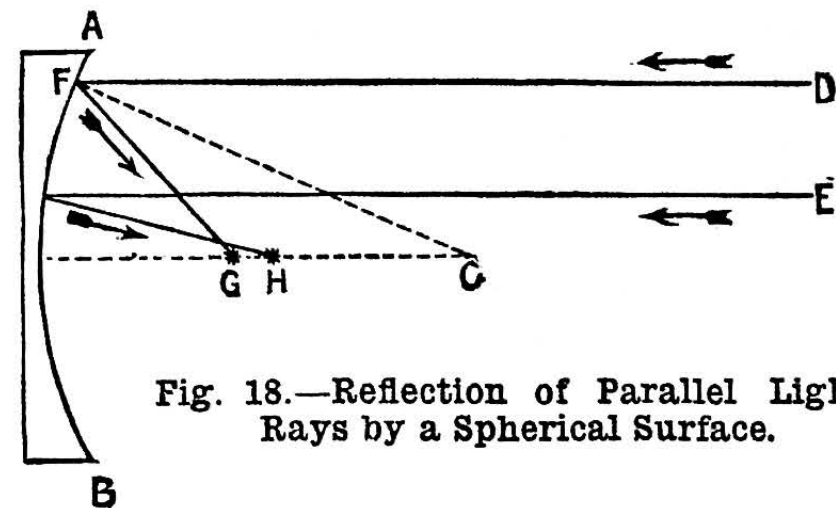
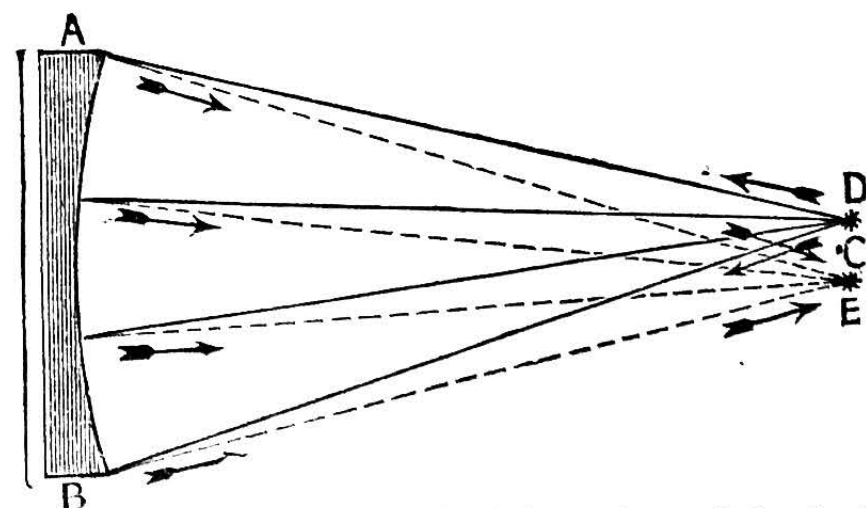
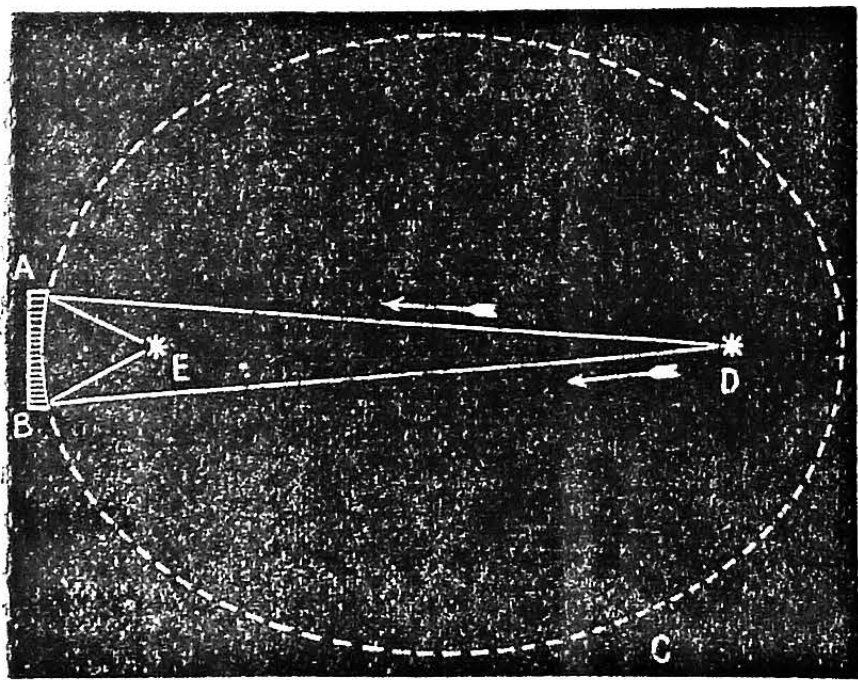

Fig. 18.—Reflection of Parallel Light Rays by a Spherical Surface.
Fig. 19.—Reflection of Light Rays by a Spherical Mirror when the Source of Light is close by the Centre of Curvature.
Fig. 20.—Rays proceeding from one Focus of an Ellipse reflected to the other Focus.
A truly polished speculum receives these parallel light rays and reflects them so as to form a quite perfect image of the object (see Fig. 18). This image is called the focal image, and is examined by being magnified by the eyepiece. (See Fig. 2, page 50.)
By means of Fig. 18 it may be traced how parallel light rays, falling directly on to a spherical mirror, are reflected.†
The spheric mirror will, however, under a certain condition, reflect light rays, not parallel to each other, to one point. Thus diverging light rays from a luminous object at *C* (Fig. 18) would be accurately reflected back to *C*, and (in Fig. 19) the rays from *D*, a luminous object quite close to the centre of curvature, *C*, are reflected unerringly (in effect) to the point *E*, where a perfect image is formed.
But if *D*, the source of light, be moved distant from the mirror, *AB*, spherical aberration will at once set in. Let *D* be removed to a considerable distance, as in Fig. 20; then, in order that the rays from *D* may be properly reflected, the curve *AB*, formerly spherical, will need to be made elliptical—part of the ellipse, *ABC*—and this will be done by deepening the concavity.
* The same law (the angle of incidence is equal to the angle of reflection) applies to rays falling on a flat surface, but the angle of incidence is then found by erecting a perpendicular at the point where the incident ray cuts the reflecting surface. Indeed, in Fig. 18, joining the centre of curvature, *C*, and the point of contact, *F*, is equivalent to erecting at *F* a perpendicular to a tangent to the curve *AB*.
The mirror is first polished spherical, so as to accurately reflect some object at the centre of curvature (Fig. 19). The object is then removed to a short distance (Fig. 20), and the curve of the glass deepened (or flattened) until the reflected image is again perfect. The object is then still farther removed, and the curve again modified to meet the altered circumstances. Thus an approximation to the parabolic curve is obtained, and a little careful work in the same direction perfects the mirror for celestial objects.
To summarise: A spherical mirror can be parabolised either by flattening the curve from centre to edge, so as to lengthen the rays reflected from the edge and cause G and H (Fig. 18) to coincide; or (and this is the better plan) by deepening the curve from edge to centre, so as to shorten the centre
* Or to flatten the curve to the ellipse and parabola, so as to throw up the image G to H (Fig. 18). But I treat the plan of deepening only in theory, for simplicity's sake. In practice, also, it is simpler to deepen a curve regularly than to flatten it regularly.